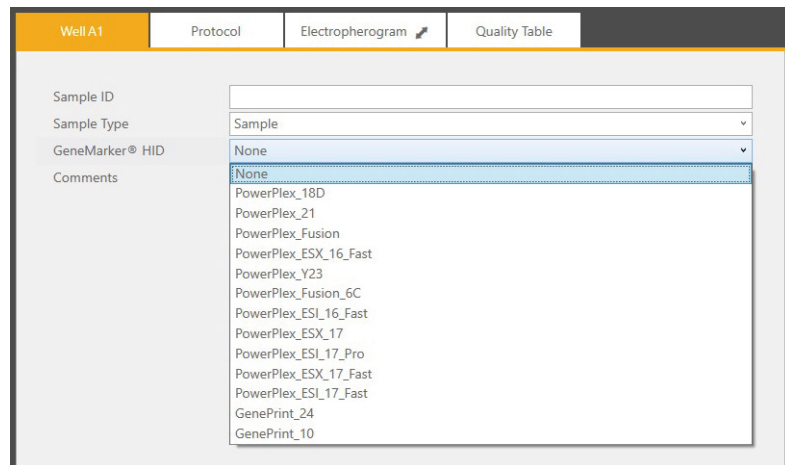

Figure 8. Drop-down options for GeneMarker®HID Software for Spectrum CE Systems run wizard templates.
6. **Optional:** Select **PowerPlex_Y23** in the GeneMarker®HID drop-down menu (Figure 8).